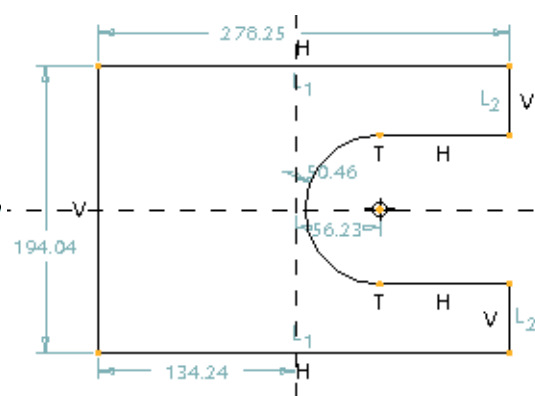

Figure 3-44 Sketch before modifying the weak dimensions with all datums turned off
5. Now, draw the lines and the arc. Some weak dimensions and constraints are applied to the sketch, as shown in Figure 3-44.
As evident from Figure 3-44, strong constraints are also applied to the sketch while drawing it. However, if these strong constraints are not applied when you draw the sketch, you need to apply these constraints manually.